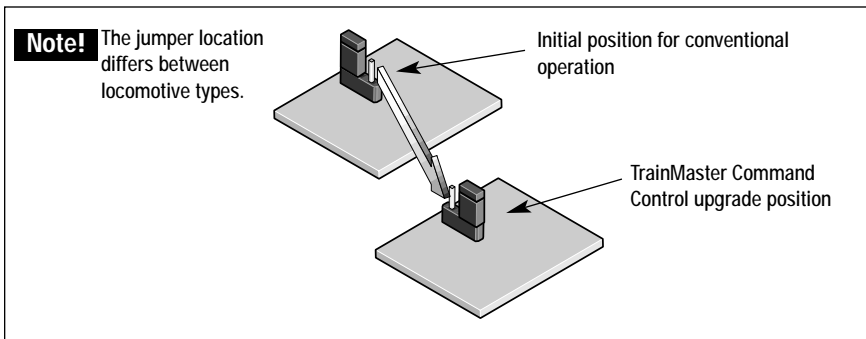

Figure 1. Repositioning the jumper
- **Steam locomotives only.** Reposition the SS/RS jumper to the RS/R2LC/COMMAND position IF you are simultaneously upgrading to TrainMaster Command Control. Do not reposition the jumper if you are only upgrading to the RailSounds sound system. The jumper is illustrated in Figure 1.